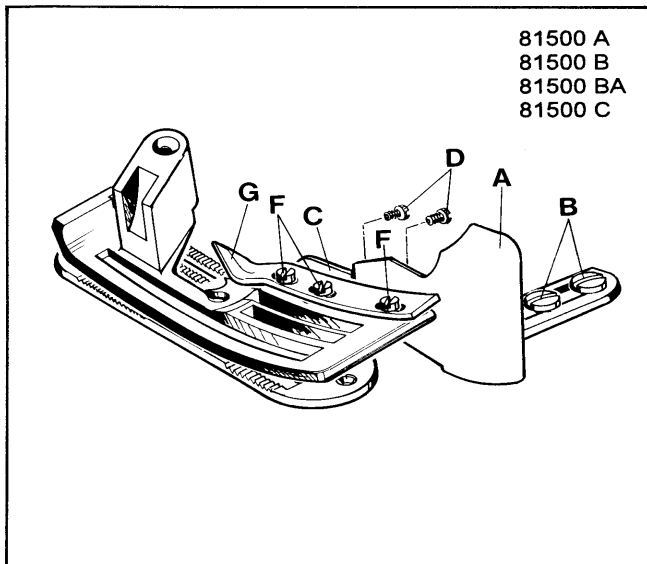

Fig. 6
Para estilos 81500A, B, B1H, B2, BA, BA1H, BA2 y 81500C, favor ver Fig. 6.
Para estilo 81500E, vea Fig. 6 A.
Set the edge guide (A, Figs. 6 and 6 A) laterally as close as possible to the presser foot, without contacting it. When loosening the two screws (B), the edge guide (A) can be moved laterally. Retighten screws.
Set the stitch tongue (C, Figs. 6 and 6 A) so that the rear part of the thread loop slides over the tongue onto the fabric, while the front part of the loop is retained until the needle securely has entered the loop. After loosening screws (D) the stitch tongue (C) can be moved to the front or to the rear. When moving the stitch tongue to the rear, the front part of the thread loop is retained longer. Retighten screws (D).